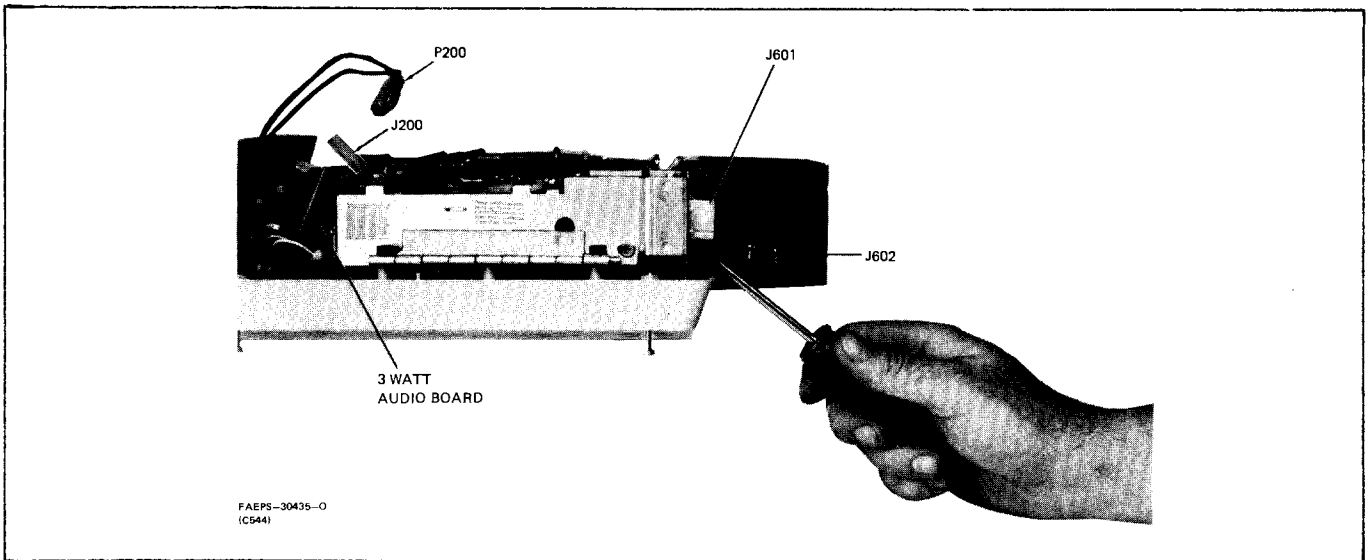

Figure 2. Recommended Method of Loosening J601
- Step 24. Refer to Figure 2. Using a flat-tip screwdriver, push up and in on the bottom tab of J601, so that J601 can swing in and up slightly.